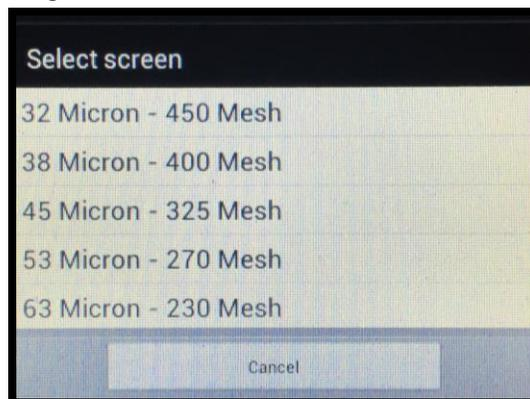

Figure 28
- a) The default number of Test Sieve Screen cells displayed is two (2). The default Test Sieve Screens displayed is the 20 micron (635 mesh) and 25 micron (500 mesh). Two (2) test sieve screen points are required to perform the Rosin Rammler Regression Value calculation (discussed further in the manual – see Pages 43-44).
- b) The default Test Sieve Screen sizes can be changed by pressing the respective button of the test sieve screen. By doing so this will result in the opening of the Test Sieve Screen selection chart (See Figure 28), where a different Test Sieve Screen can be chosen.
- d) To add/remove a Test Sieve Screen from the analysis menu, press the “-” button to remove the bottom Test Sieve Screen shown on the list and/or “+” to add another Test Sieve Screen to the analysis menu. This action will open the Test Sieve Screen selection chart, as shown in Figure 28.
- e) In order to add NON-ASTM micron/mesh size screens the **Custom Screen** button must be selected. By doing so a window will open titled “Custom Screens”, which will display 2 cells, Micron Size and Mesh Size. (See Figure 28) By pressing the “Micron Size” cell, the keyboard will open permitting the operator to enter the numeric value of the Non ASTM Test Sieve Screen.